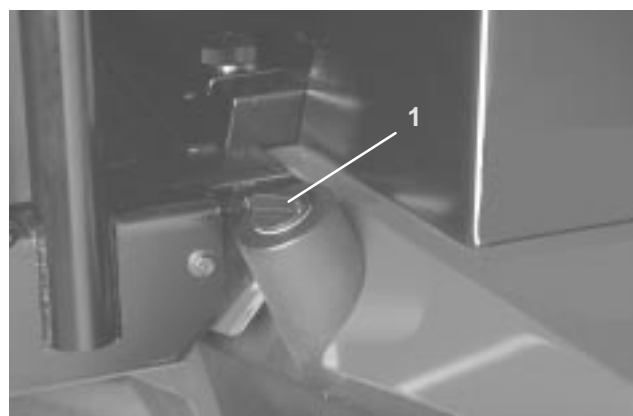

Figure 18
2. Clean area around filler neck and cap of hydraulic tank (Fig. 18). Remove cap from filler neck.